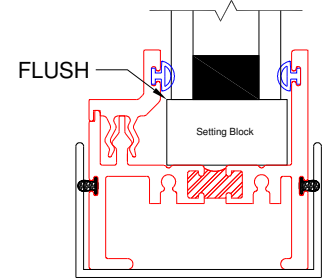

Figure 8:
2. Orientate the setting blocks to be flush with the glass (Figure 8) and place at 1/4 points along the sill.